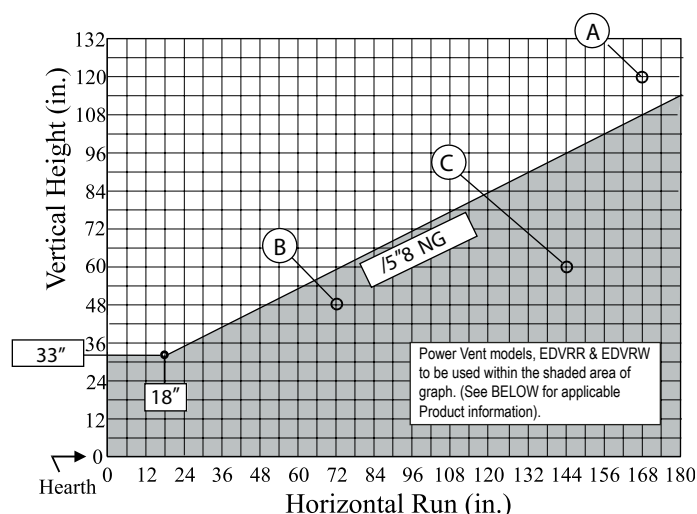

Figure 22. HW42D-F Multi-Elbow Venting Graph.
To install the heat shield, slide one section over the vent pipe on the inside of the wall opening, with the circular portion *inside the wall cavity*. Screw the shield in place over the wall opening. Install the second section on the outside of the wall opening sliding the circular portion into the wall opening. Refer to Figure 22 & Figure 24.
- your vent run must fall within the limits set by Figure 22.
Measure the vertical height from the fireplace hearth to the centre of the termination and the horizontal run from the fireplace flue collar to the wall flange of the termination. Plot on the Venting Graph (Fig. 22) with an 'X'.